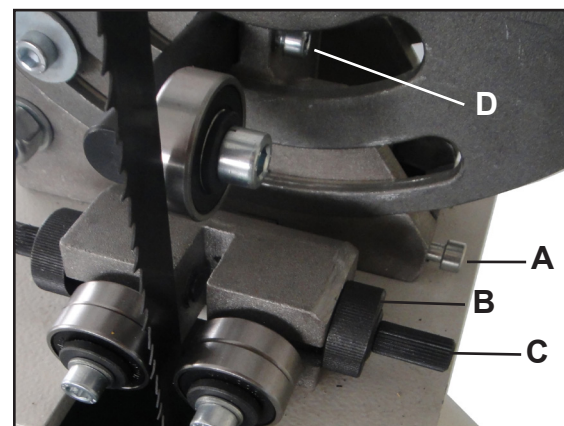

Figure 18
**Lower Guides:** To adjust the lower blade guides, first loosen the hex nut (A-Fig.18), then move the lower guide support casting to allow the side roller guides to be approximately 1/16" behind the gullets of the blade, and re-tighten the hex nut. Next set the roller guides to within 1/32" of the blade by releasing the lock knob (B-Fig.18) and turning the micro-adjusting knob (C-Fig.18). Do not set the guides too close, as this will adversely affect the life of the blade. When the correct adjustment is reached, lock the guides in position by re-tightening the lock knob (B-Fig.18). Adjust the thrust bearing to be just clear of the back of the blade by unlocking the hex nut (D-Fig.18), and turning adjusting knob on rear of the trunnion. Finally, re-tighten the hex nut (D-Fig.18).